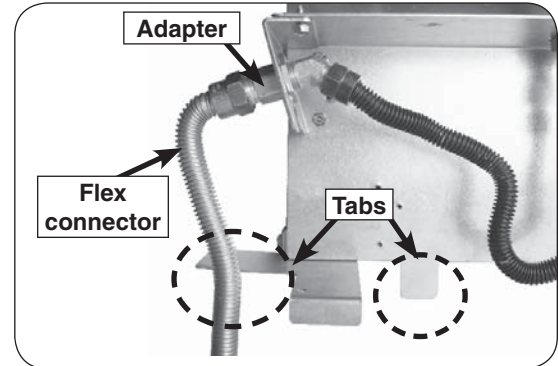

Fig. 8-1 Connect flex to burner
3. Attach the nut end of the flex connector to the adapter found on the bottom of the burner pan. Tighten securely (See Fig. 8-1).
Note: The tabs located on the burner are for spacing and air circulation. See Fig. 8-1.